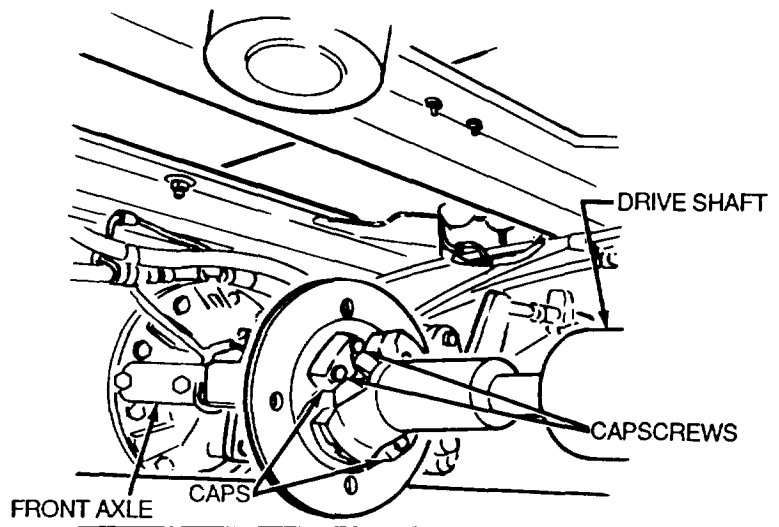

Figure 5-43 Drive Shaft
3. Disconnect the driveshaft by removing four capscrews and two caps (Figure 5-43). The driveshaft must be disconnected from the front axle and secured to a frame cross-member to prevent it from contacting the